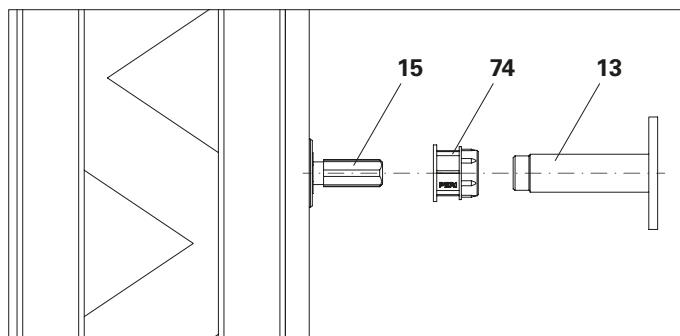

Fig. A5.08
3. Screw Anchor Sleeve M24 onto Anchor Position. M24x65 mm (**15**) and tie it to the reinforcement to secure the position. (Fig. A5.08)